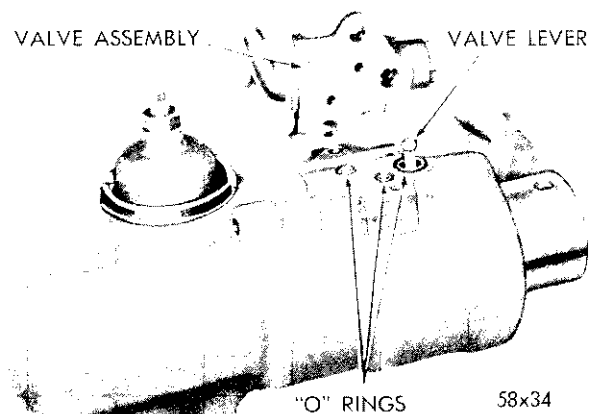
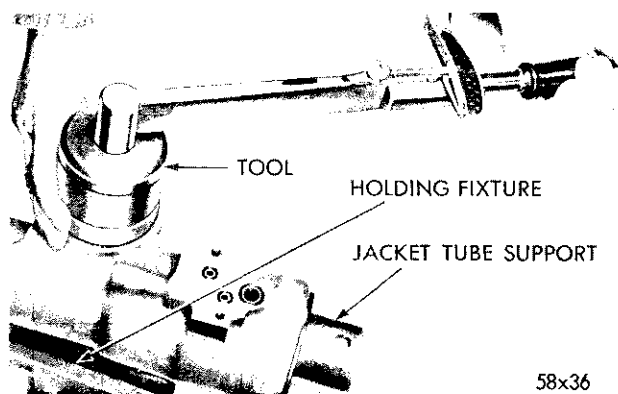

Fig. 25—Removing or Installing Valve Body Assembly
Fig. 26—Removing or Installing Gear Shaft Cover Nut
(3) Remove the valve body housing attaching screws and remove the valve body and the three "O" rings (Fig. 25).
(4) Remove the valve lever and spring. Pry under the spherical head with a screwdriver. Use care not to collapse the slotted end of the valve lever as this will destroy the bearing tolerances of the spherical head.
(5) Loosen the gear shaft adjusting screw lock-nut to facilitate removal and remove the gear shaft cover nut with Tool C-3633 (Fig. 26).